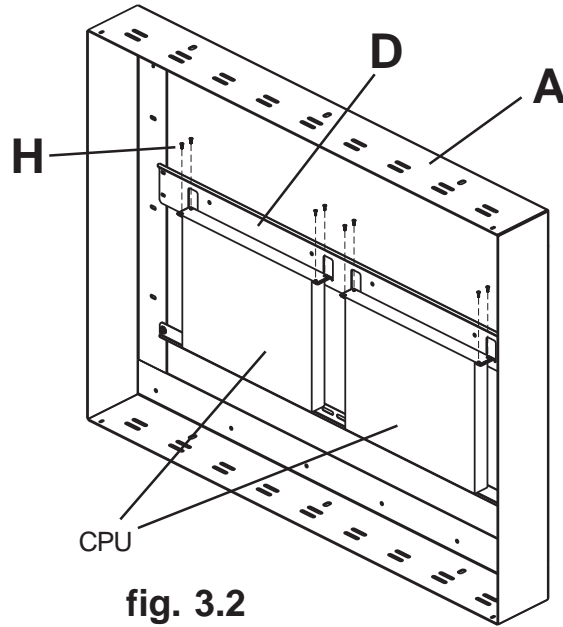

fig. 3.2
Attach CPU hardware to CPU bracket (D) using eight M5 x 12 mm phillips screws (H) as shown in figure 3.2.